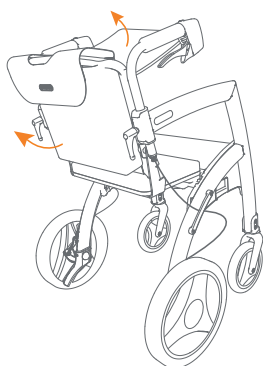
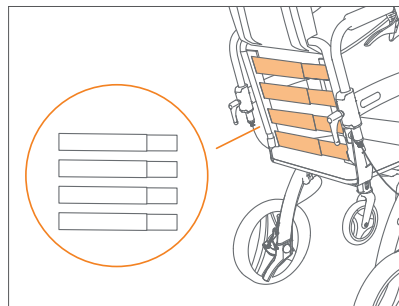

Figure 43: Clear adjustment straps.
Figure 44: Four adjustable adjustment straps.
- b. Pull up the bag of the transport chair package and the backrest cover from the bottom (**Figure 43**). The adjustment straps are now clearly visible (**Figure 44**).